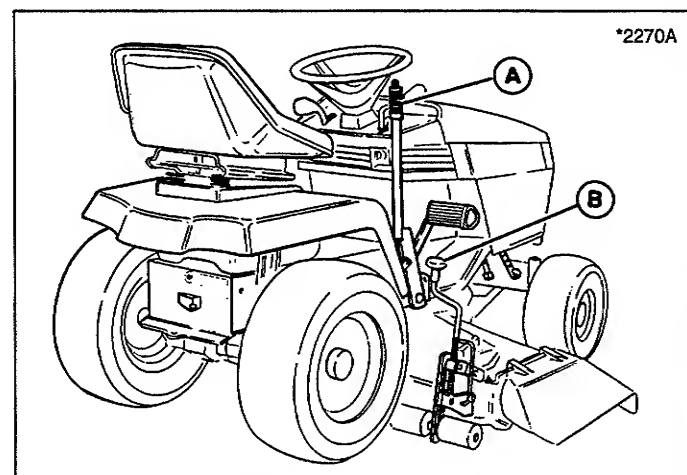
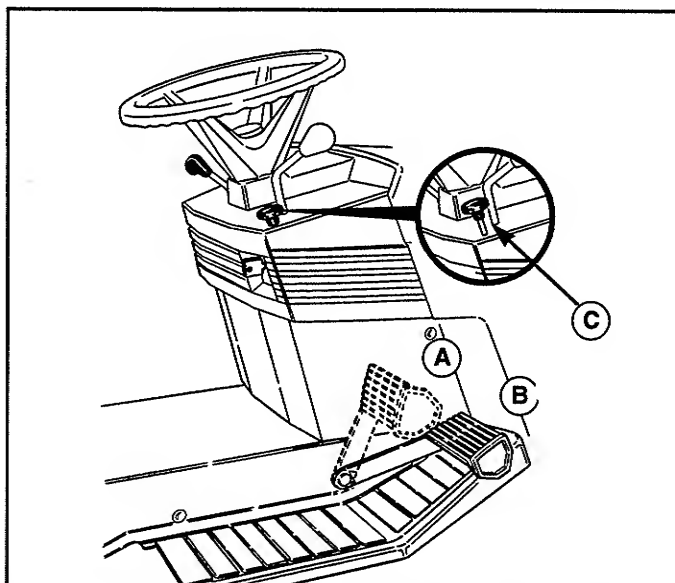
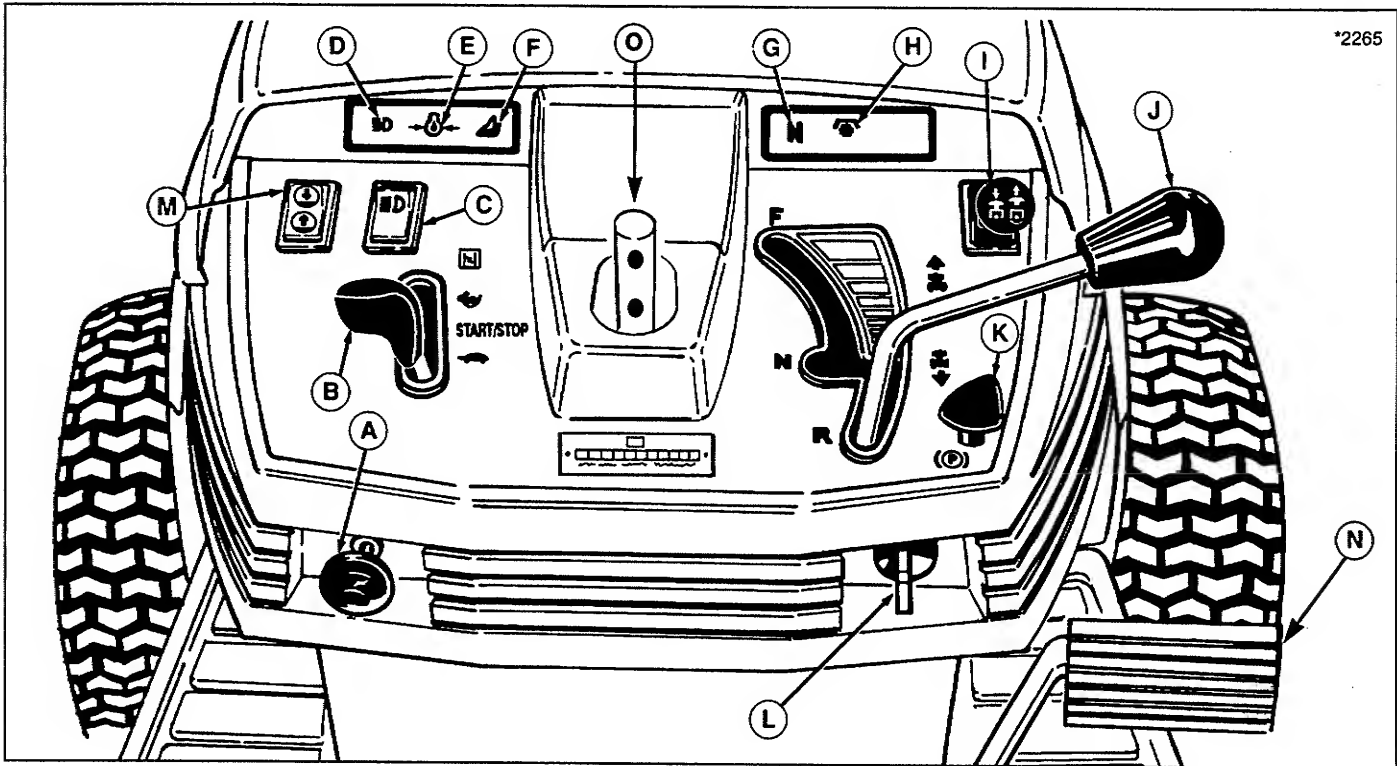

Figure 10. Mower Operation - Manual Lift
Figure 11. Clutch/Brake Pedal and Parking Brake (Brake Pedal Only - Gear Models)
Figure 13. Tractor Controls (Hydro Model Shown)
2. Place mower in the lowest cutting position using the mower height adjuster (B, figure 10). Place the mower lift lever (M, figure 2 or A, figure 10)) in the lowest position, also. Slide mower deck under right side of tractor so that mower hitch is aligned with front tractor hitch.
2. Place mower in the lowest cutting position using the mower height adjuster (B, figure 10).
3. Place the mower lift lever (A, figure 10 or M, figure 13) in the lowest position.
1. When traveling to or from the work site, fully raise the mower using the mower lift lever (A, figure 10 or M, figure 13). At the work site, lower mower using the lift lever.
2. Use the mower height adjuster (B, figure 10) to set the proper mowing height. See Mowing Patterns & Tips section for cutting height recommendations.
1. See figure 11. Depressing the pedal to position A disengages the transmission drive and, when in a forward gear, returns the transmission control lever to neutral. Fully depressing the pedal to position B applies the tractor brake.
2. Parking brake is applied at pedal position B when parking brake control knob (C, figure 11) is pulled up with pedal fully depressed.
2. See figure 11. Depressing the brake pedal from position A to B applies the tractor brake. Parking brake is applied at position B when parking brake control knob (C) is pulled up with pedal depressed.
Refer to figure 13.
**On hydro models,** ground speed is infinitely variable according to how far the control lever (J, figure 13) is moved in the forward or reverse position.
**On gear models,** ground speed is selected by depressing the clutch pedal and moving the control lever (J, figure 13) to the appropriate gear selection.
1. If you are ready to mow, lower the mower from the transport position using mower lift lever (A, figure 11 or M, figure 13) and set the mowing height using the
mowing height adjuster (B, figure 11).
2. Set the engine speed control lever (B, figure 13) for full speed.
3. Use the PTO switch (I) to engage the PTO.
4. Release the parking brake by depressing brake pedal (N, figure 13) and pushing knob (K) down.
5. On hydro models, move the ground speed control lever (J, figure 13) to the desired direction and speed of travel to set the tractor in motion.
6. Adjust engine speed control lever (B, figure 13) to the desired speed. Between 3/4 and full speed is recommended for mowing.
1. **On hydro models,** move the ground speed control lever (J, figure 13) into the NEUTRAL position to make a gradual stop. To make a more rapid stop, depress the clutch/brake pedal (N, figure 13).
**On gear models,** press the clutch pedal (N, figure 13) down to disengage the clutch for a gradual stop. For a more rapid stop, press the brake pedal down to apply the brake while also depressing clutch pedal to disengage the PTO. Move the ground speed control lever to NEUTRAL before releasing the pedals.
2. Engage the parking brake by fully depressing brake pedal and pulling up on parking brake knob (K, figure 13).
3. Use the PTO switch (I, figure 13) to disengage the PTO.
4. Set the engine speed control lever (B, figure 13) to 1/2 throttle setting and allow the engine to idle for 20 seconds. Stopping a hot engine too fast may cause engine damage.
5. Turn key (L, figure 13) to OFF and remove it.
1. With engine off and key removed, use the PTO switch (I, figure 13) to disengage the PTO.
2. Place the mower in the transport position (up) using the mower lift lever (A, figure 10 or M, figure 13).
3. Place the ground speed control lever (J, figure 13) in the neutral position.